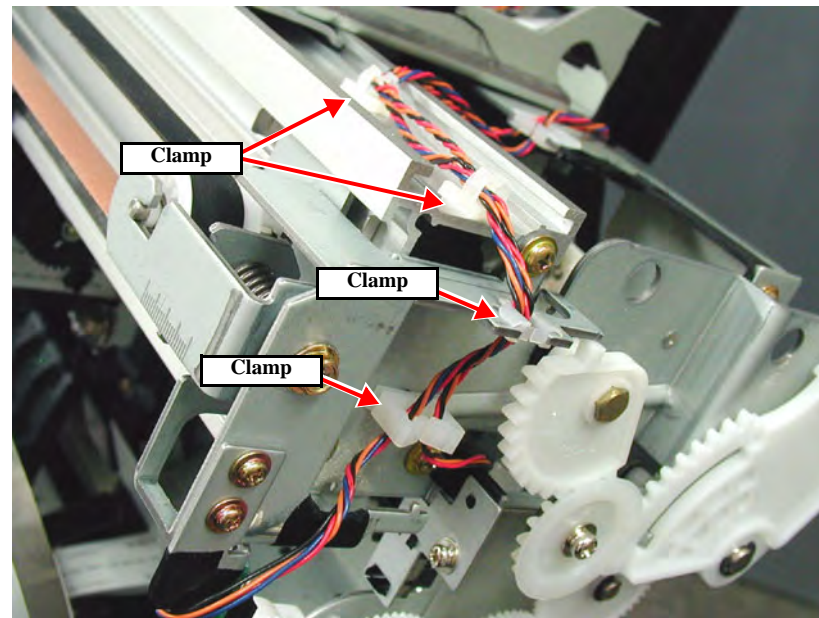

Figure 4-46. Releasing the CR_HP Sensor ASSY Harness
3. Release the harness of the CR_HP Sensor ASSY from the four clamps on the printer body. (See Figure 4-46)